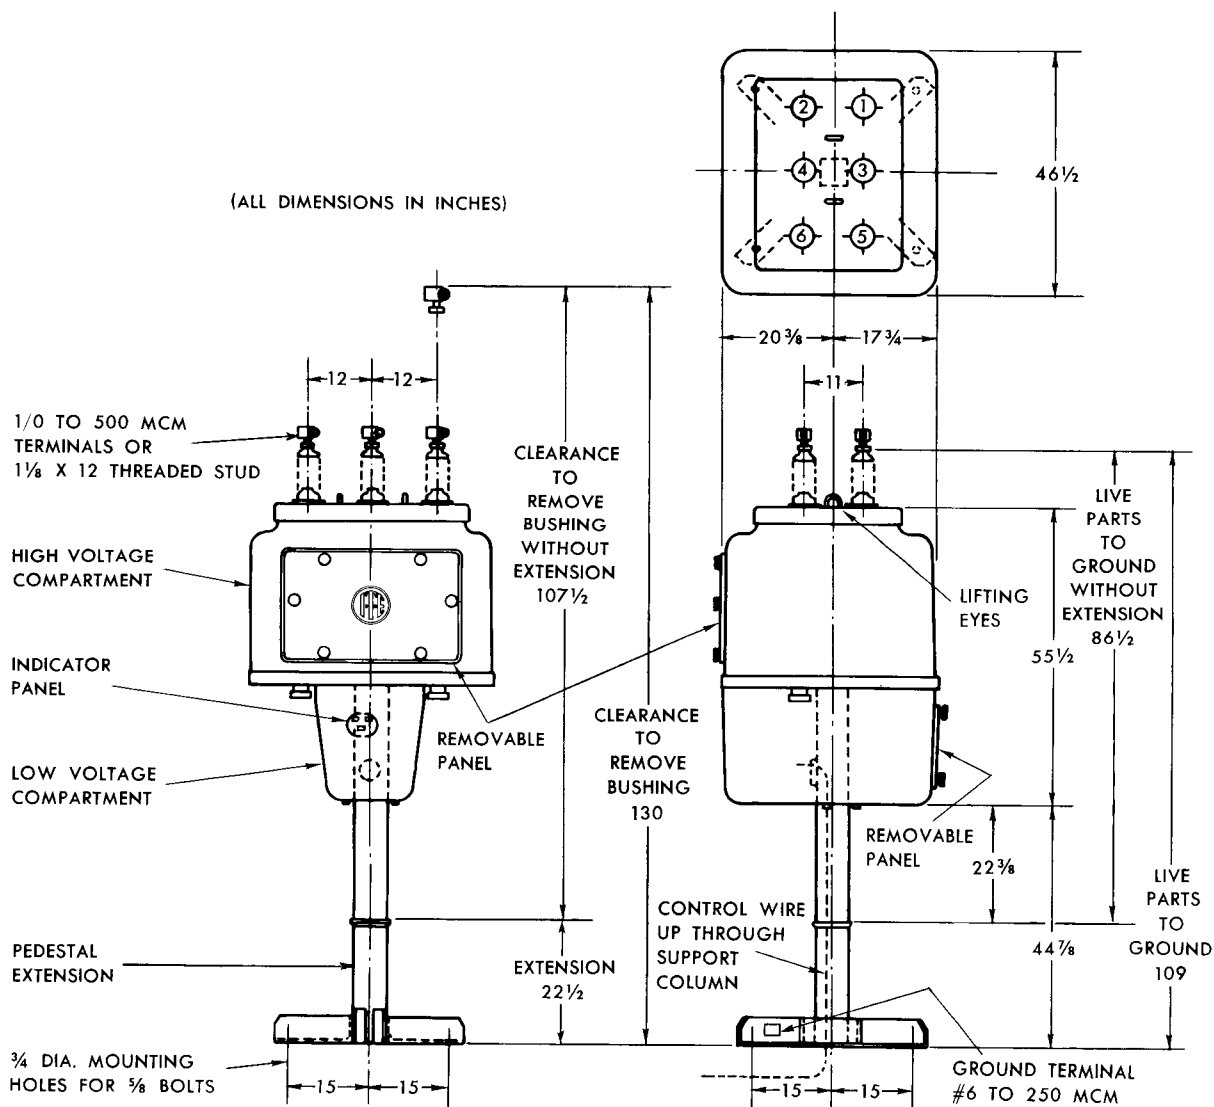

Fig. 3. Assembly of the Pedestal Extension on the Model VRP.
4. Bolt the pedestal extension in place as shown in Figure 3.
NOTE: For normal stand-by service, current requirements are in milliamperes. With the metal-housed model, the control conduit is brought into the low voltage compartment through the removable conduit plate that is provided. With the plastic-housed model, the control conduit is brought in through the bottom of the hollow main pedestal (Figure 3).